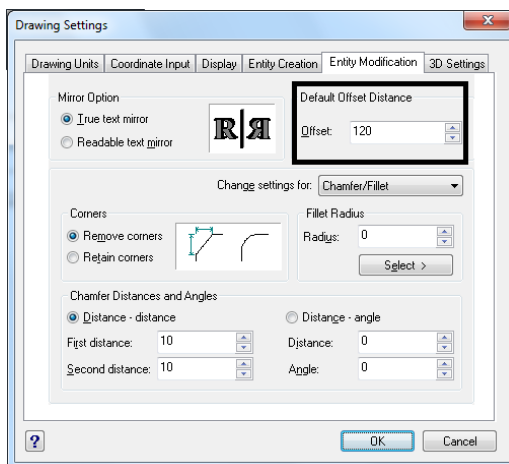

Fig. 128 – Drawing Settings dialog box
- In the **Drawing Settings** dialog box (Fig. 128), specify the fillet radius and click **OK**;